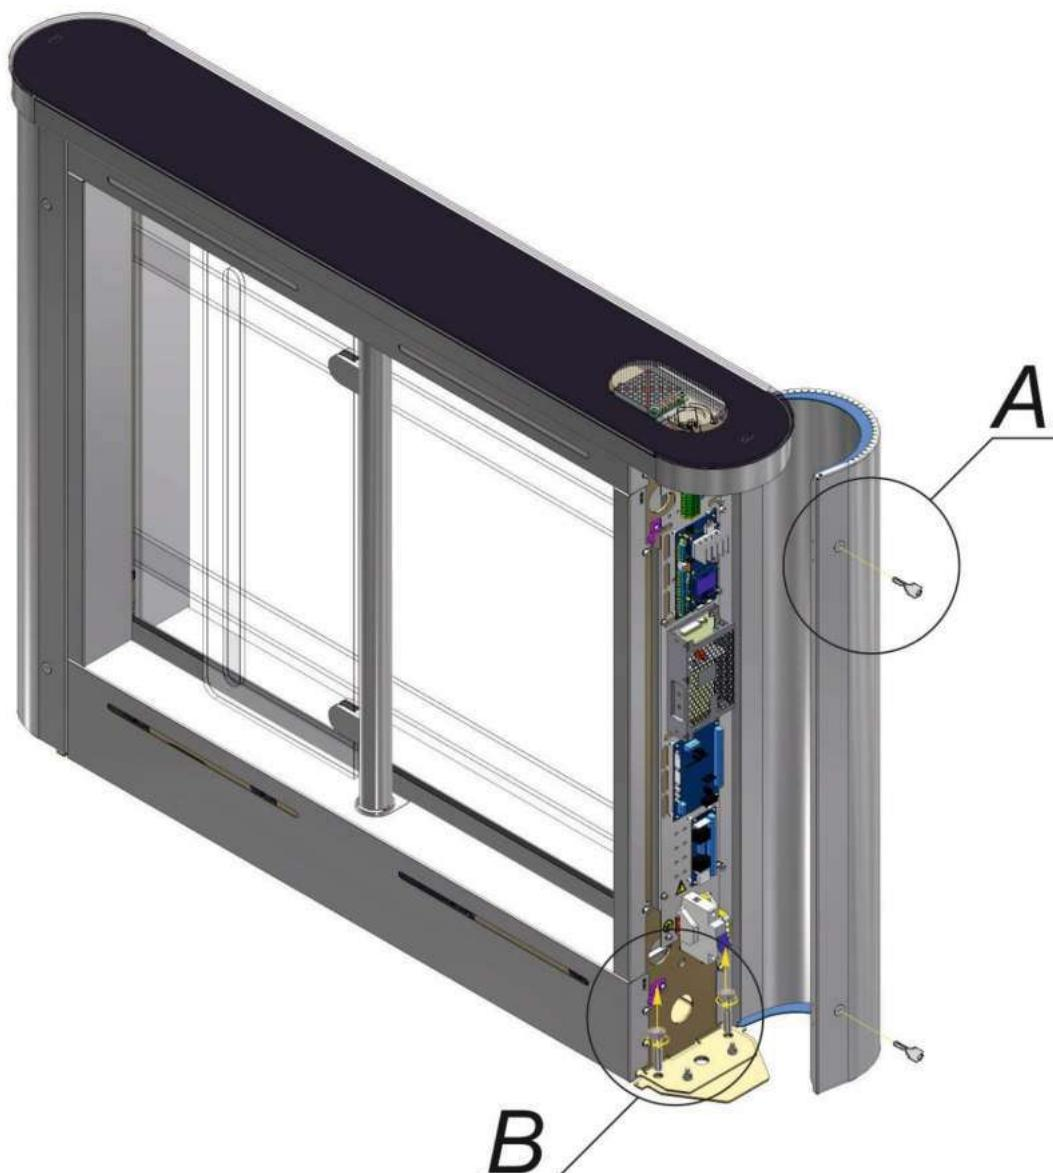

Fig. 17 – Turnstile dismantling and relocation from pallet
The turnstile cabinet removal from pallet (See Fig.17). The side pieces to be opened to provide access to fixation holes. The side pieces are designed as a hinged door and are closed with locks.
5) The turnstile fixation holes to be marked on the area surface according to Figure 17 (for turnstiles with 550 mm and 900 mm lanes). The turnstile itself can be used as a template.